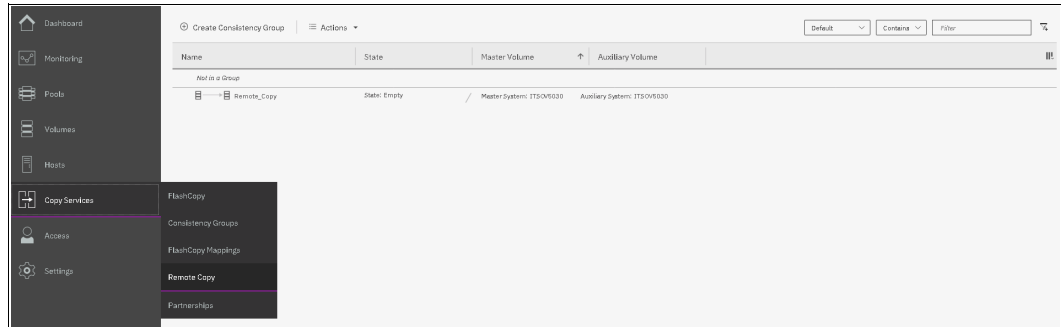

Figure 10-79 Remote Copy panel
- ▶ The Remote Copy panel, as shown in Figure 10-79.